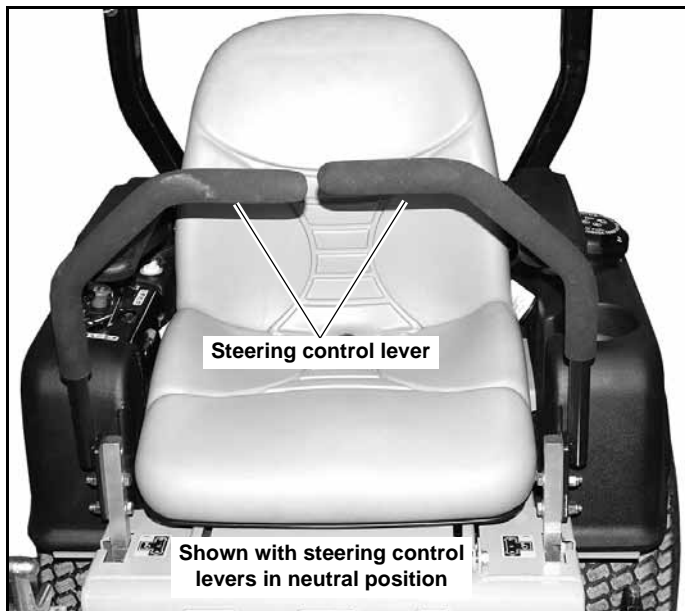
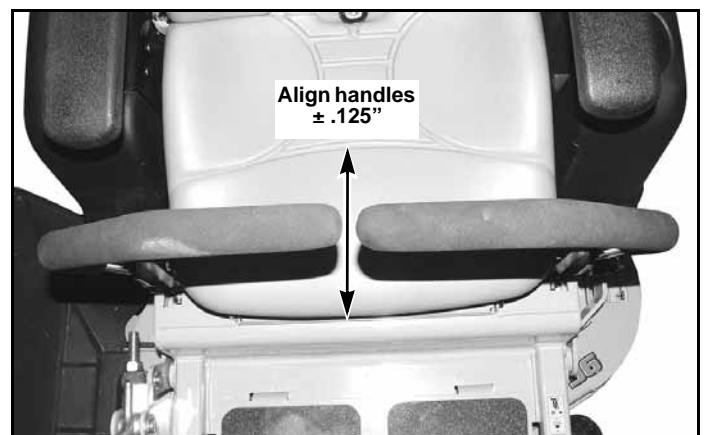

Figure 4-3
Figure 4-4
(Do not engage the steering control lever far enough to engage the brakes in the brake slot) (Figure 4-3).
16. The steering control levers should be adjusted so that they align vertically with each other when in the neutral position (Figure 4-3). Space between ends of steering control handles to be  $.50'' \pm .25''$ . Figure 4-4
3. Place the steering control lever in the neutral position. Figure 4-3